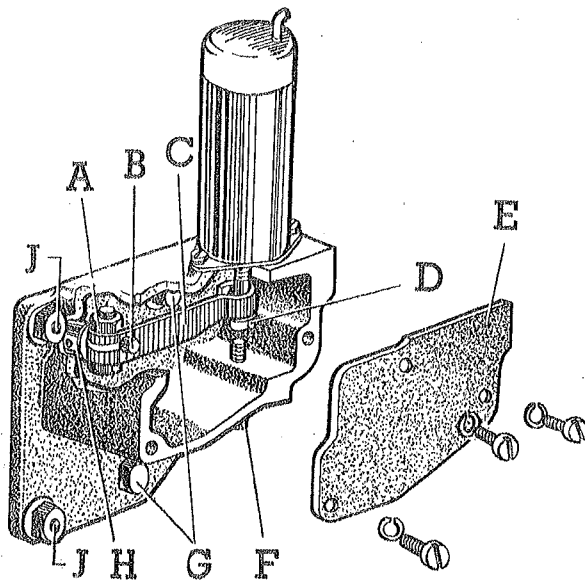

Fig. 9. Adjusting the solenoid lever
- (1) Remove the cover plate E from the solenoid bracket.
- (2) Slacken off the clamping bolt A in the solenoid lever.
- (3) Energize the solenoid as already described and put a $\frac{3}{16}$ " (4.7625 mm) diameter pin through the hole in the valve setting lever into the hole in the casing.
- (4) Hold the solenoid lever C downwards so that it bears lightly against the head of the plunger bolt D and tighten the clamping bolt A (Fig. 9). Make sure that there is no end-float
5. Remove the distance collar H (Fig. 9).
It is very unlikely that any maladjustment of the lever will develop to prevent overdrive from releasing. Make sure that there is $\frac{1}{4}$ " (6.35 mm) clearance between the solenoid adjusting screw F (Fig. 9) and the head of the solenoid bolt when